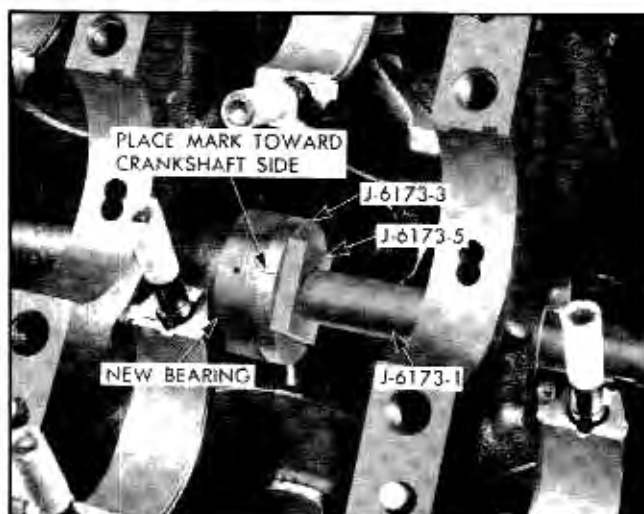

Fig. 6-71 Preparing to Install Bearing
5. Position Replacer Adapter J-6173-3, with bearing in position against shoulder, against rear of hole in which bearing is to be installed (Fig. 6-71). Index mark on shoulder of Replacer must point up (toward crankshaft side) to properly position bearing.
7. Slip key J-6173-5 into notches in shaft behind Replacer Adapter J-6173-3 and tighten nut to start bearing into hole (Fig. 6-71). Continue to tighten nut